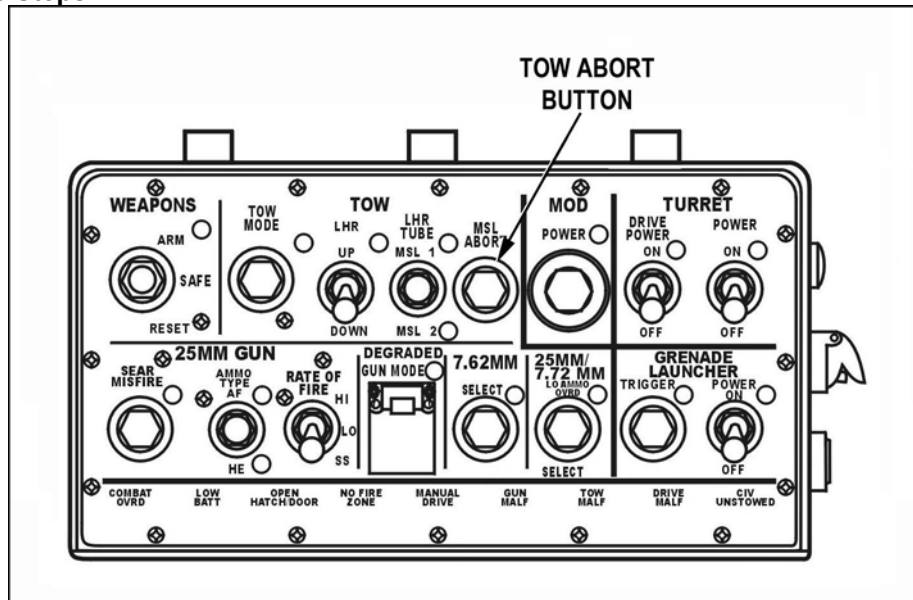

Figure 13. TOW ABORT button.
- (1) Squeeze and hold palm switch on the GHS.
- (2) Squeeze and release the trigger switch on the GHS.
- (3) If the TOW missile does not launch in 5 seconds, squeeze and release the trigger switch again.
- (4) When TOW missile launches, continue to squeeze palm switch on the GHS.
- l. Abort TOW missile (Figure 13).